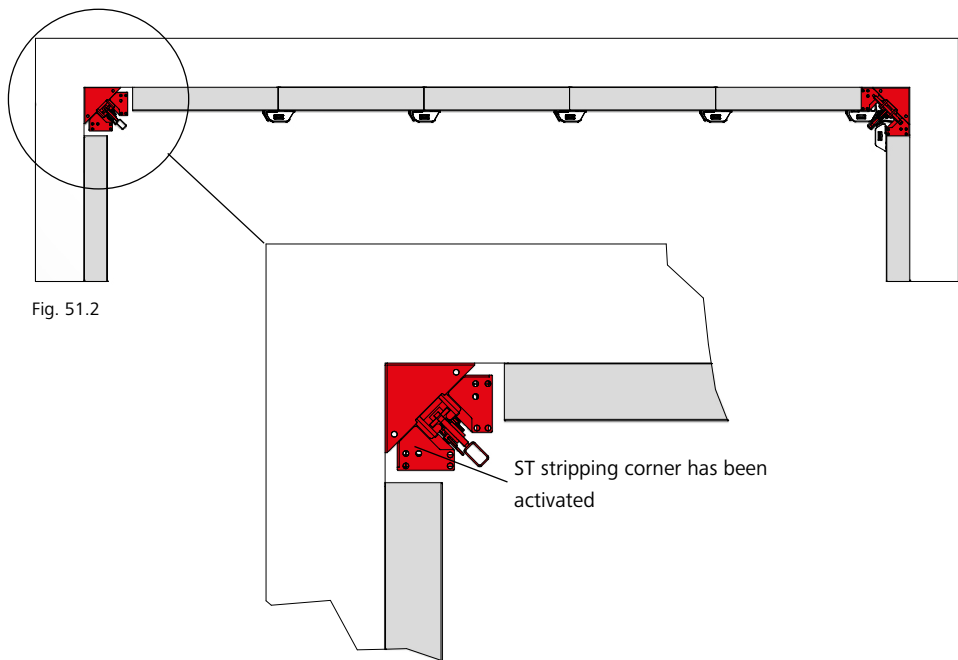

Fig. 51.2
2. Activate the ST stripping corner (Fig. 51.2 and pages ST-XT-48 to -50).